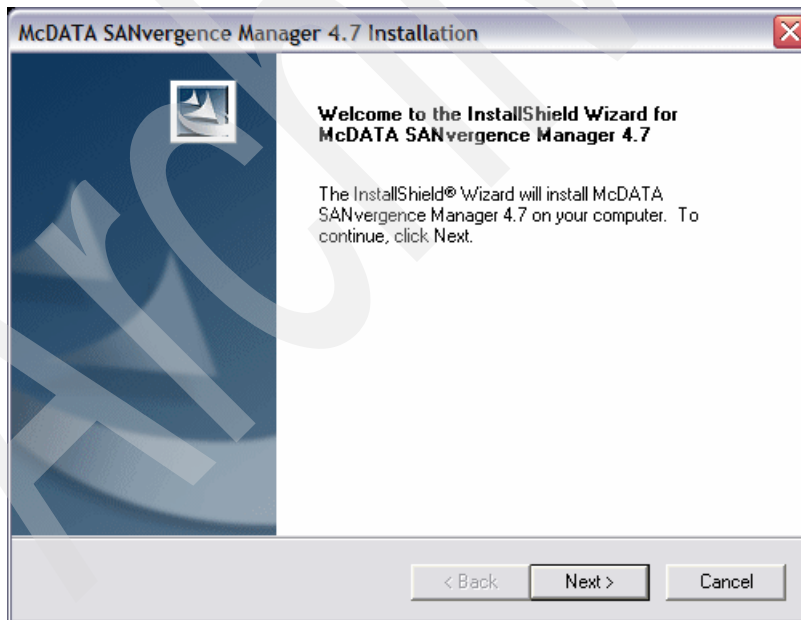

Figure 17-10 SANvergence Manager installation: Welcome window
2. In the welcome window (Figure 17-10), click **Next**.